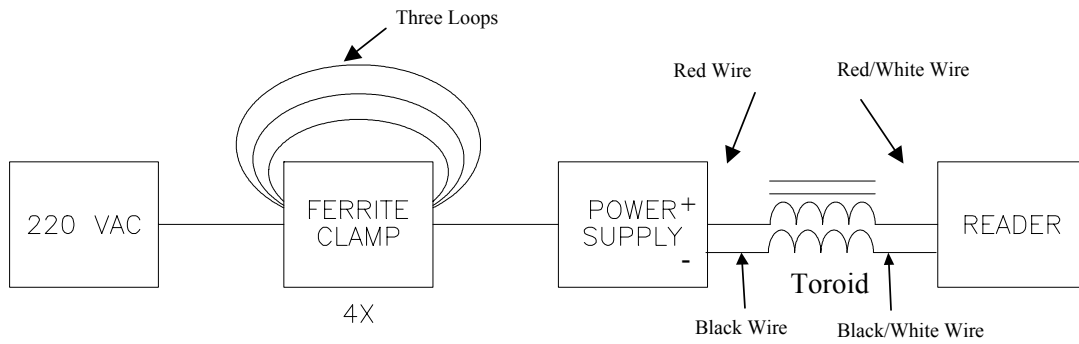

Figure 2. Installation of reader with ferrite clamp and toroid
- To comply with EU RF emission standards, it is necessary to install two components as shown in Figures 2 and 3: one in the line between the power supply and the unit, and another on the line between the AC mains and the power supply.